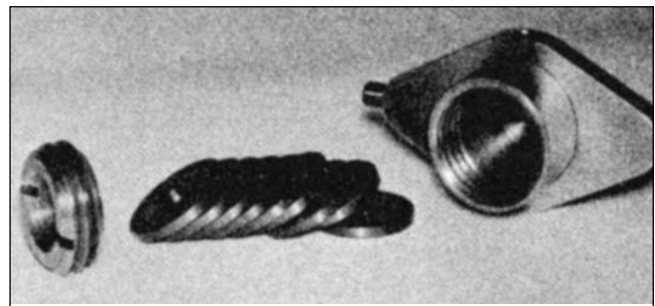

Figure 7, Holder Diameter
**FIGURE 7:** INSIDE DIAMETER OF HOLDER MUST BE LARGER THAN THE OUTSIDE DIAMETER OF PARTS. Lining up a stock of parts should be by I.D.'s when concentricity with O.D.'s cannot be depended upon. There must be sufficient clearance inside the holder to permit lining up by I.D.'s. This holder used double handles for stroking as shown in Figure 12.